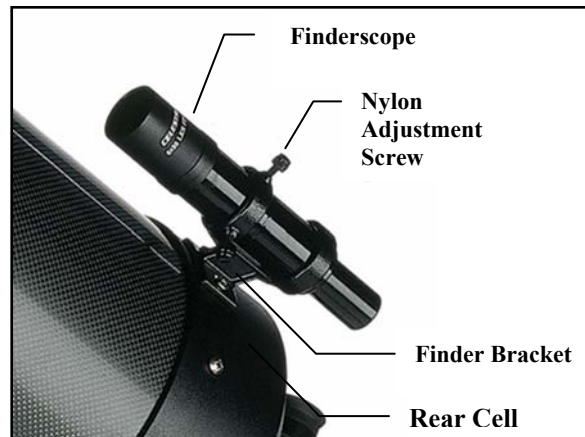

Figure 1-4
1. Attach the bracket to the optical tube. To do this, place the curved portion of the bracket with the slot over the two holes in the rear cell. The bracket should be oriented so that the rings that hold the finder are over the telescope tube, not the rear cell (see Fig 1-4). Start threading the screws in by hand and tighten fully with an Allen wrench.